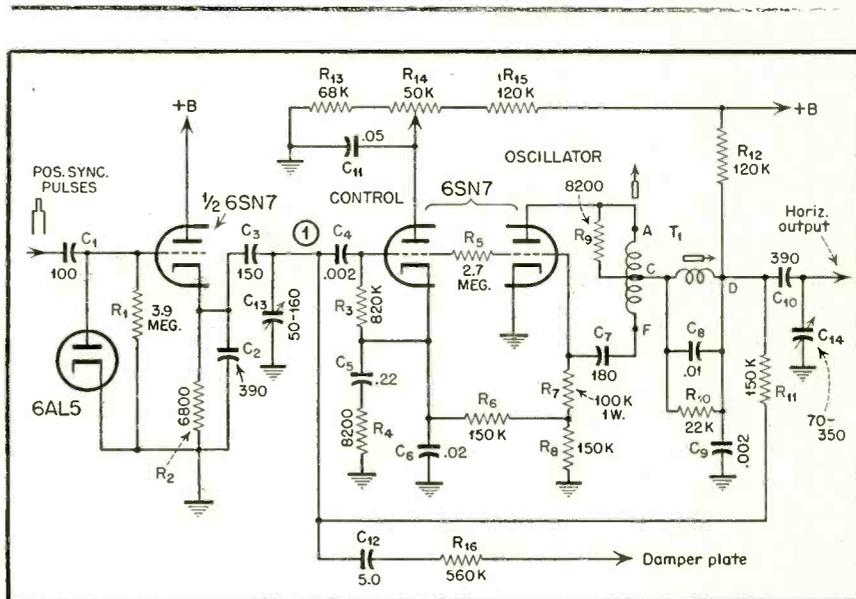
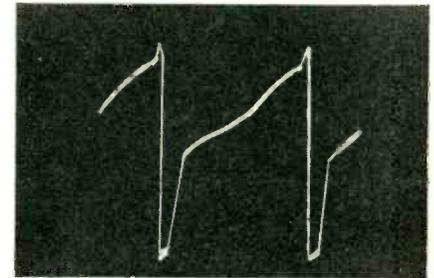

Fig. 9. Typical Synchroguide Circuit.
Fig. 10. Wave shape at point in Fig. 9; 30 volts peak to peak.
In the circuit of *Fig. 9*, the 6SN7 shown at the right is both the oscillator and the control tube. The triode section containing *T1*, is a blocking oscillator circuit, generating a square and sine wave combination which is converted into a sawtooth through the R-C network *R12*, *C10*, *C14* and *C9*. *T1* is a tapped coil and in some older receivers the winding from *C-D* is lacking. This coil was inserted after it was found that the circuit had a tendency to be unstable and the main function of this inductance is to stabilize the circuit. The frequency of the oscillator depends mainly on the inductances in *T1* and the grid bias across *R7*. It will be noted that the grid of the oscillator is returned to a tap on the cathode bias resistor of the control tube. At the same time a portion of the oscillator grid bias is applied to the grid of the control tube through *R5*. Since the oscillator grid bias is a relatively large negative voltage, this will tend to keep the control tube cut-off for anything except strong positive signals. A large cathode bias on the control tube helps further to keep this triode section cut-off.
coupled from *point D* on *T1* through *R11* to *point (1)*. The synchronizing pulse comes from the synch clipper and amplifier through *C3* and a small additional pulse is fed back from the plate of the damper tube through *R16* and *C12*. The result of all three pulses is the wave shape shown in *Fig. 10*. The control tube is at such a high bias that only the small positive pip on top of the wave makes the tube conduct. If this pip is broad, current passes for a longer time than if the pip is a very sharp point. The current
Consider the voltage wave at *point (1)* in *Fig. 9*, again. If the synchronizing pulse would occur just before the steep portion of the sawtooth, the pip on top would obviously be broader. If the synchronizing pulse would occur slightly later, only the narrow feedback pulse from the damper tube would be perched on top of the sawtooth and this would mean a shorter current passing interval at the control tube. The appearance of the pulse pip is controlled by *C13*, usually labeled "Lock-In Range" control. This trimmer is part of the capacitive voltage divider *C3* and *C12*, and determines the pulse height and width. Once this adjustment is made it need not be touched unless major circuit changes are required. After the pulse width for normal operation is set through the adjustment of *C13*, the two separate windings in *T1* must be adjusted to oscillate at the proper frequency. If, for some reason the frequency of the oscillator changes slightly, the width of the pip on top of the sawtooth wave appearing at *point (1)* will vary. A variation in pulse width at the grid of the control triode results in a variation of the cathode bias of this tube. This cathode bias is actually the error voltage which controls the speed of the oscillator through *R7*, the grid resistor of the oscillator triode.
2. Connect 'scope probe through the same resistor to *point (1)* in *Fig. 9*. Adjust the slug which tunes coil A-F until two sawtooth waves appear and stand still. Adjust *C13* to give a curve like the one shown in *Fig. 10*. Re-adjust the slug if necessary.
3. Set the horizontal hold control to approximately center and adjust *C14* for maximum width and brightness. Retune *T1* to obtain a locked-in picture and a 'scope as in *Fig. 10*.
Fig. 9. The "Million Proof" chassis also features a fool-proof switch for automatic gain control. The switch controls three degrees of AGC action and will enable the serviceman to set the AGC for peak performance for a specific location.
Fig. 10. Indicative of the "keep-the-serviceman-in-mind" theme which underlined the development of the "Million Proof" chassis is the simplification of RF oscillator adjustments, the majority of which can now be made at the front of the set, via the channel selector switch. The formula is simple. Remove the escutcheon from the selector switch and flip the channel selector to the channel to be adjusted. The masking guide will automatically guide the serviceman to the proper adjustment.